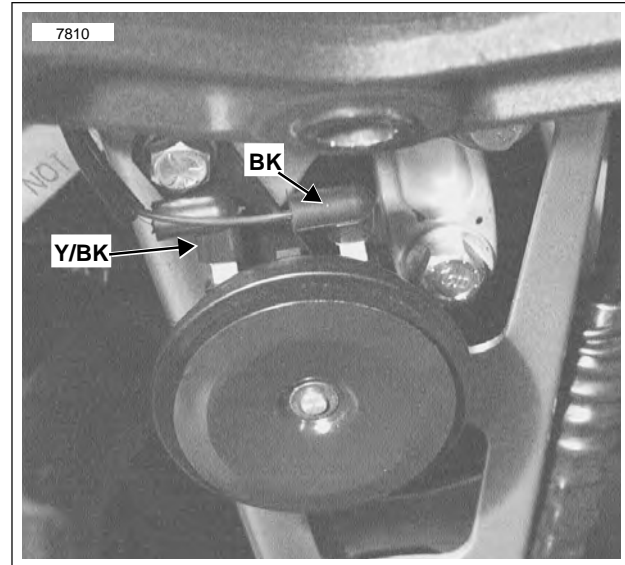

Figure 7-78. Horn Assembly
2. See Figure 7-78. Detach Y/BK power wire and BK ground wire from terminal clips.
1. See Figure 7-78. Connect Y/BK power wire and BK ground wire to terminal clips.
- a. See Figure 7-78. Remove Y/BK power and BK ground wires from terminal clips.